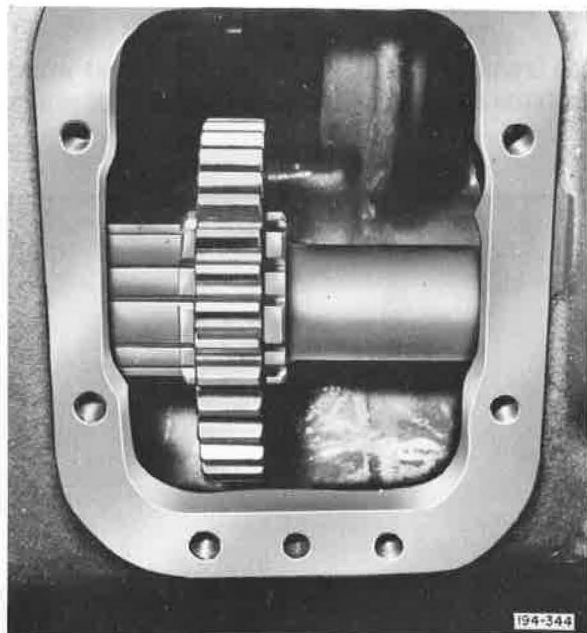

Figure 5-4 . Gear and Snap Rings Installed
9. Position power take-off gear on countershaft splines; then install gear front snap ring in groove provided in shaft to retain gear. See Figure 5-4 .